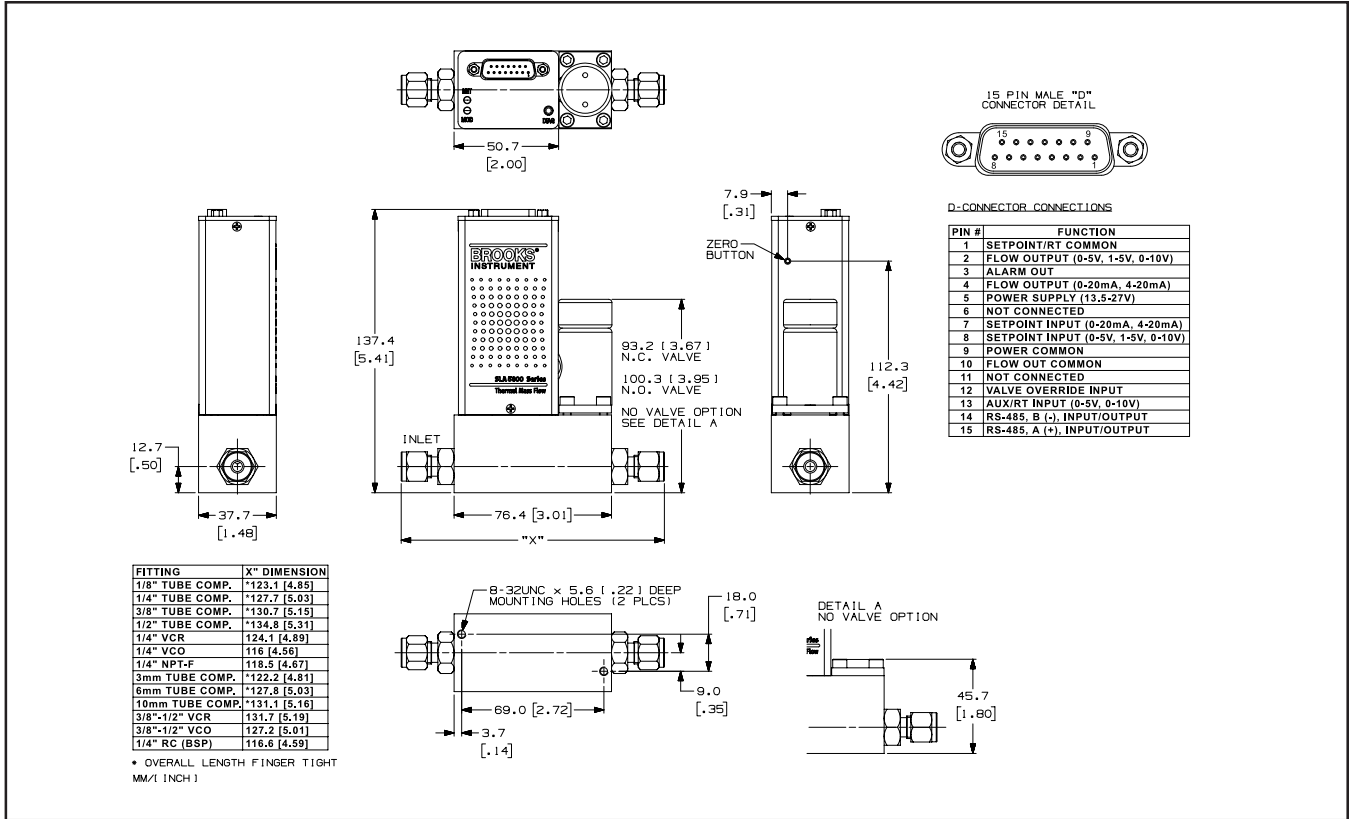
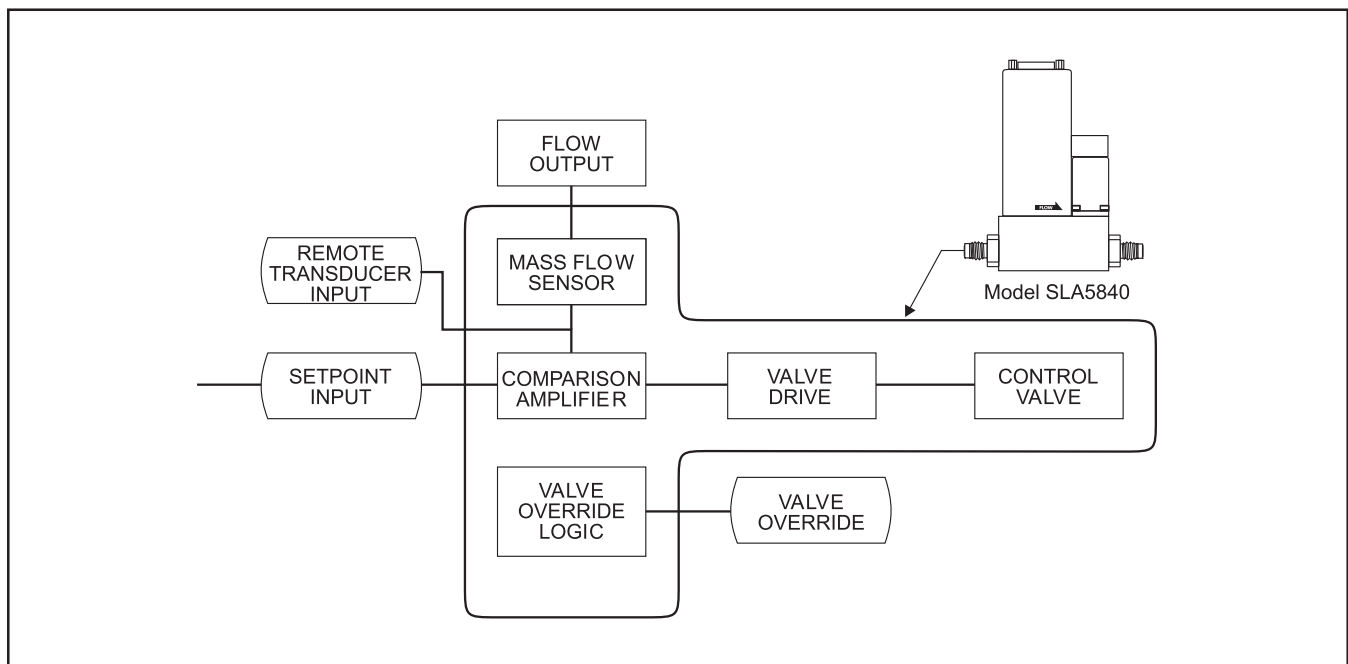

Figure 1-4 Model SLA5840, Thru-Flow, RS485
Figure 3-1 Model SLA5840 System Block Diagram
The Brooks SLA5840 is a Remote Transducer (RT) pressure controller with an integral Mass Flow sensor for flow indication. This device will control the pressure in a vessel or feed or exhaust line by using the remote transducer output signal as the transducer input of the SLA5840. This user supplied pressure transducer can have a full scale pressure as low as 10 mTorr or as high as several hundred psi and a full scale output signal of 5 or 10 Vdc. The control electronics PID circuit compares the pressure signal to a setpoint and acts to regulate the flow through the integral solenoid control valve to stabilize the pressure at the setpoint value. An integral mass flow sensor, identical in design to the Brooks SLA5850 Mass Flow Controllers, provides a signal proportional to the flow through the control valve. A system block diagram is shown in Figure 3-1. The integration of mass flow sensor, control electronics and control valve into one unit results in a compact size. The mounting dimensions are comparable to a mass flow controller. Refer to Figures 1-4 thru 1-6.